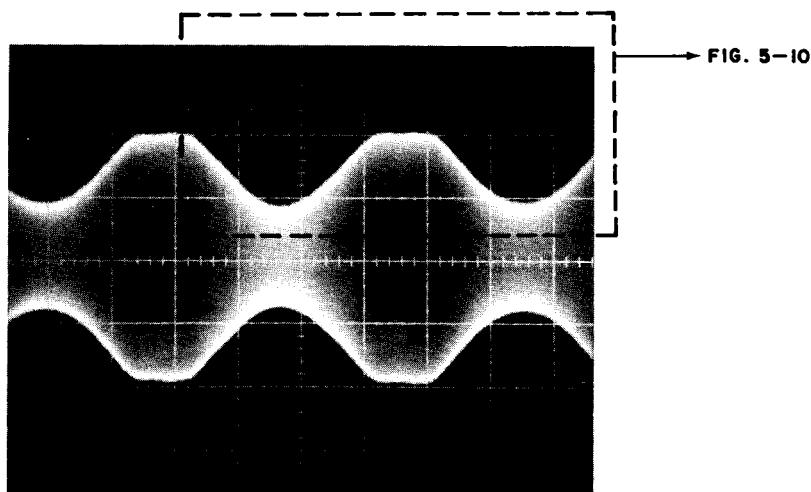
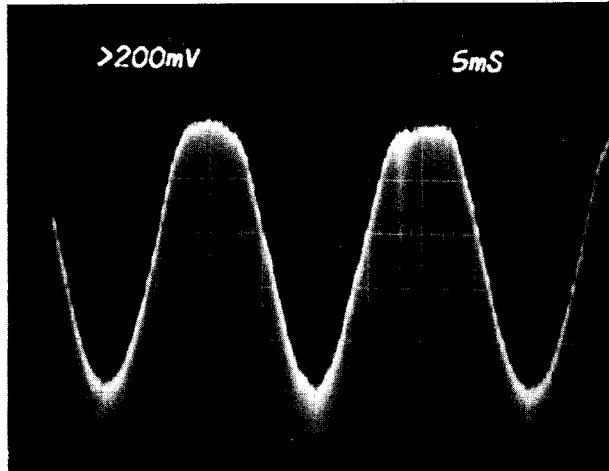

Figure 5-9 R/W HEAD ALIGNMENT CHECK WAVEFORM
Figure 5-10 R/W HEAD ALIGNMENT CHECK WAVEFORM
2. Monitor the signal at TP2 of PCB J10 to observe the signal shown in Figure 5-9. Then set scope Ch1 to 200 mV/Div and readjust the scope for the pattern shown in Figure 5-10. The signal from the lower head will normally be selected and its output seen at TP2. The signal from the upper head may be selected for observation at TP2 by replugging the R/W head cable connector so that the top row of pins on the plug are inserted into the bottom row of socket terminals on the J10 PCB. This leaves the bottom row of plug pins and the top row of socket terminals disconnected. Both heads should be checked.
3. The signal from a correctly aligned head will appear as shown in Figure 5-10. Adjustment is required if successive dips differ by more than 60%. Figure 5-12A shows a 40% misadjustment and Figure 5-12B shows 80% misadjustment using the Diablo Alignment Cartridge or the IBM C.E. Pack with hub shim. If the waveform is not within the specified acceptable range, perform the Alignment Procedure (subsection 5.5.4.5.2).
3. When a R/W Head is in its rearmost position, the head will be about 5 cylinders too far back. A head is adjusted by inserting a set screw (part of torque wrench set #99001) in the proper threaded screw hole (see Figure 5-7, View E), and turning it in against a diagonal surface on the edge of the head support arm. This will move the head assembly toward the spindle **only**. If the head is moved too far, the screw must be removed, the head clamps loosened, and the head moved rearward to begin again. As the head is moved toward the spindle by the set screw, it will approach the pre-recorded alignment track (track 100 or 105 as described earlier). Standard Density machines read track 100 with the erase coils, while High Density machines read track 105 with the read/write coils. The head is correctly adjusted when an equal portion of the eccentrically recorded track is read by each half of the winding. Figures 5-9, 5-10 and 5-11 all depict 0% error in head adjustment.